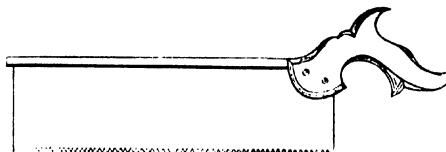

Fig. 37.
**Tenon Saw** —This saw is shown in Fig. 37. Notice that the teeth of the saw are not in the same line. They are bent alternately in opposite